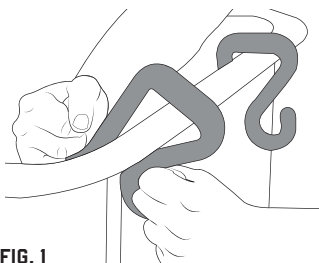

FIG. 1
- Flex the hook open slightly and angle the hook approximately 45 degrees to the lip of the bucket (FIG 1). The locking portion of the hook should be facing outside the bucket.